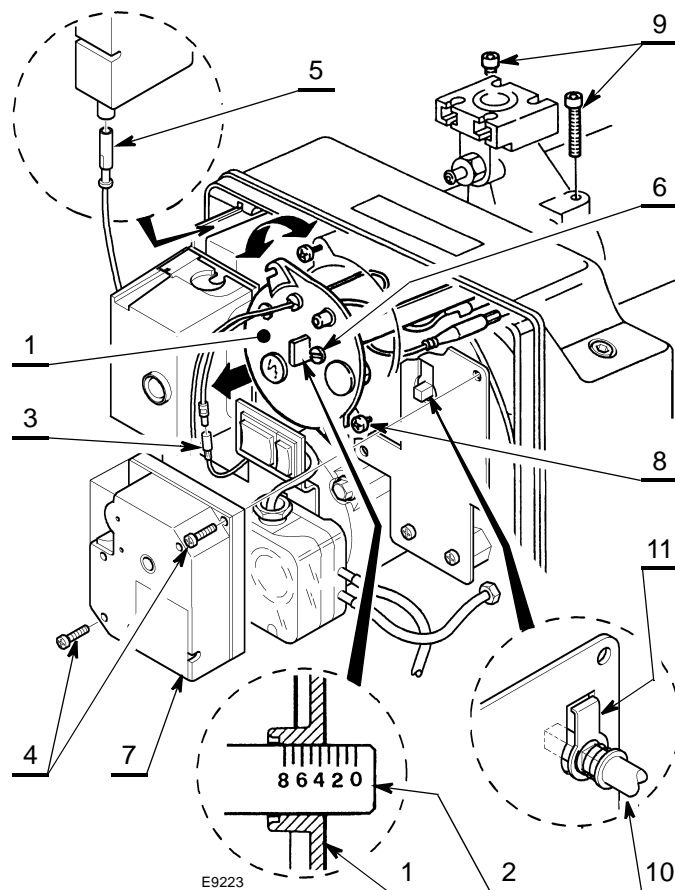

Fig. 11
This is carried out by turning the adjustment screw 6)(Fig. 11) clockwise or anti-clockwise until the notch on the regulating rod 2) lines up with the outside surface of the head assembly 1).
Fig. 11 shows the head regulating rod set on notch 3.5.
- make sure that the servomotor 7)(Fig. 11) is in a closed position (**CAM II = 0**);
The rotating shaft 10)(Fig. 11) operated by the servomotor 7) is equipped with a safety mechanism 11) that prevents it from accidentally rotating during maintenance operations.
- Loosen the screws 9)(Fig. 11);